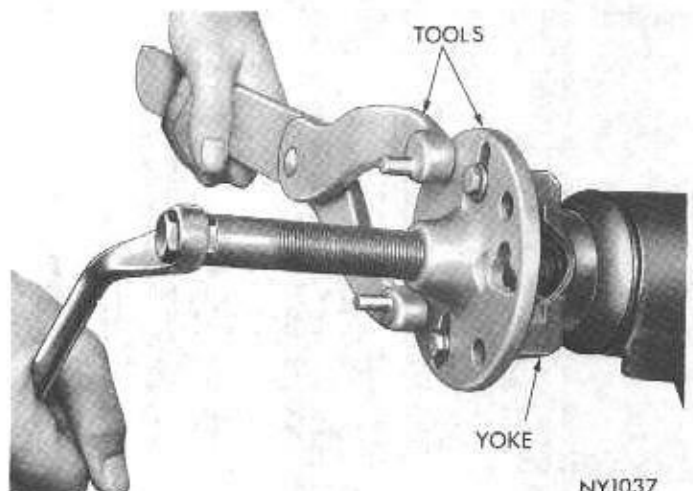

Fig. 9—Removing Companion Flange
(6) Remove drive pinion nut and washer. Using Tool C-452 and holding Tool C-3281, remove drive pinion flange (Fig. 9).